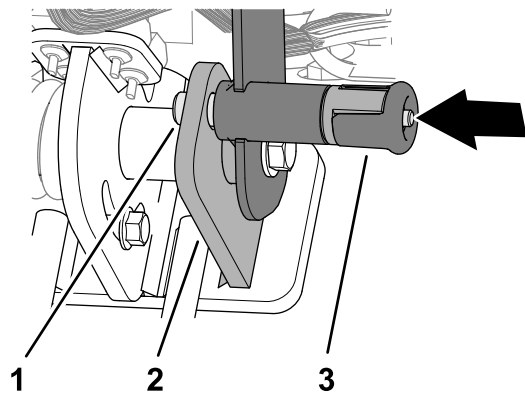

**Figure 6**
4. Rotate the handlebar up and secure it with the handlebar-latch pin (Figure 6).